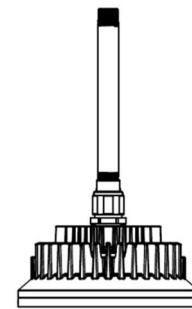

Figure 9
- ☞ Tighten tube locking setscrew to conduit, 1.0 N-m. (Figure 9)